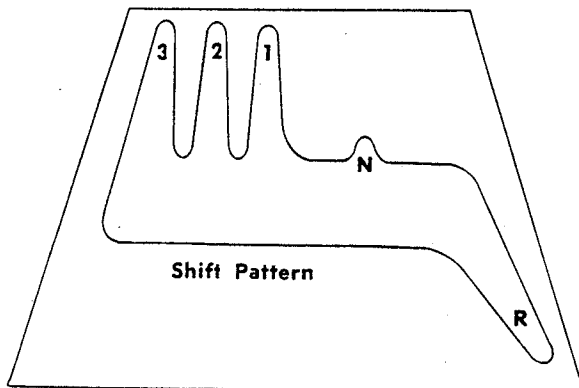

FIG. 4
Lever must be in neutral (N) (Fig. 4) before starting engine.
To have unit travel forward pull lever out of notch and to the left and push lever forward into one of the fingers in the shift panel. (Fig. 4). Select 1 for slow travel, 2 for medium, and 3 for fastest.